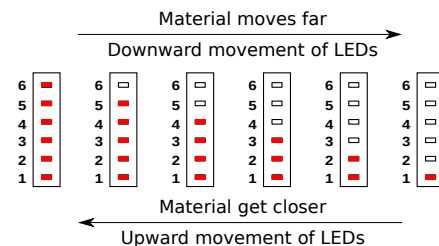

Figure 29: Demonstration of LED Bar Display
- Display Mode: The display mode shows the material distance from the instrument's probe. The movement of LEDs in upward direction depicts the movement of application media towards Coat-Endure's Probe and vice-versa, as shown in Figure 29.